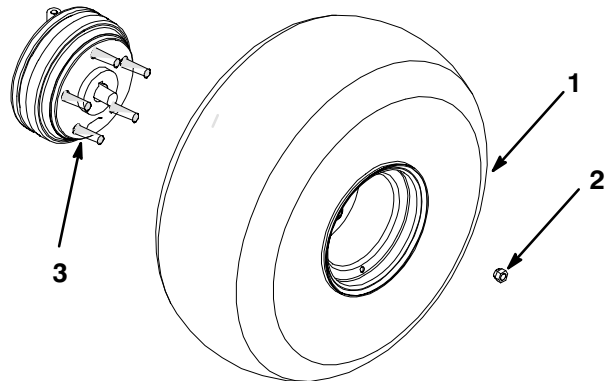

Figure 1
3. Mount the wheels with the previously removed fasteners (Fig. 1) and torque the nuts to 45-65 ft-lb.